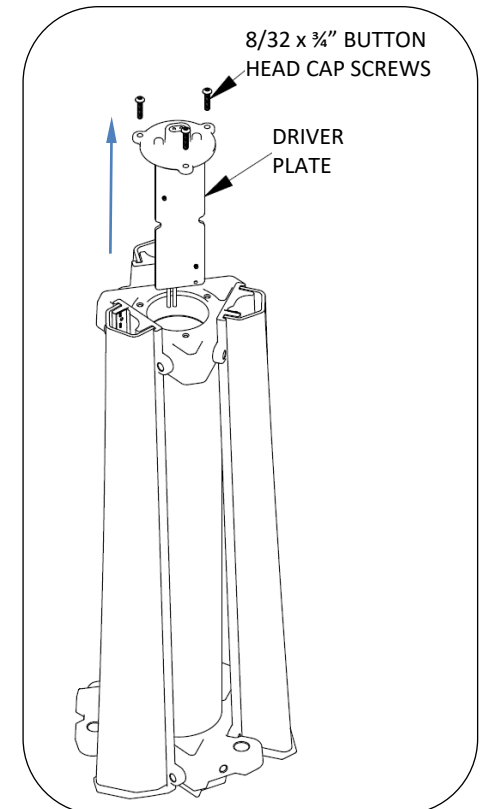

FIG. 7 – WIRING CONNECTION LOCATION
2. Using 3/32" standard hex key, remove three screws as shown in Fig. 7.